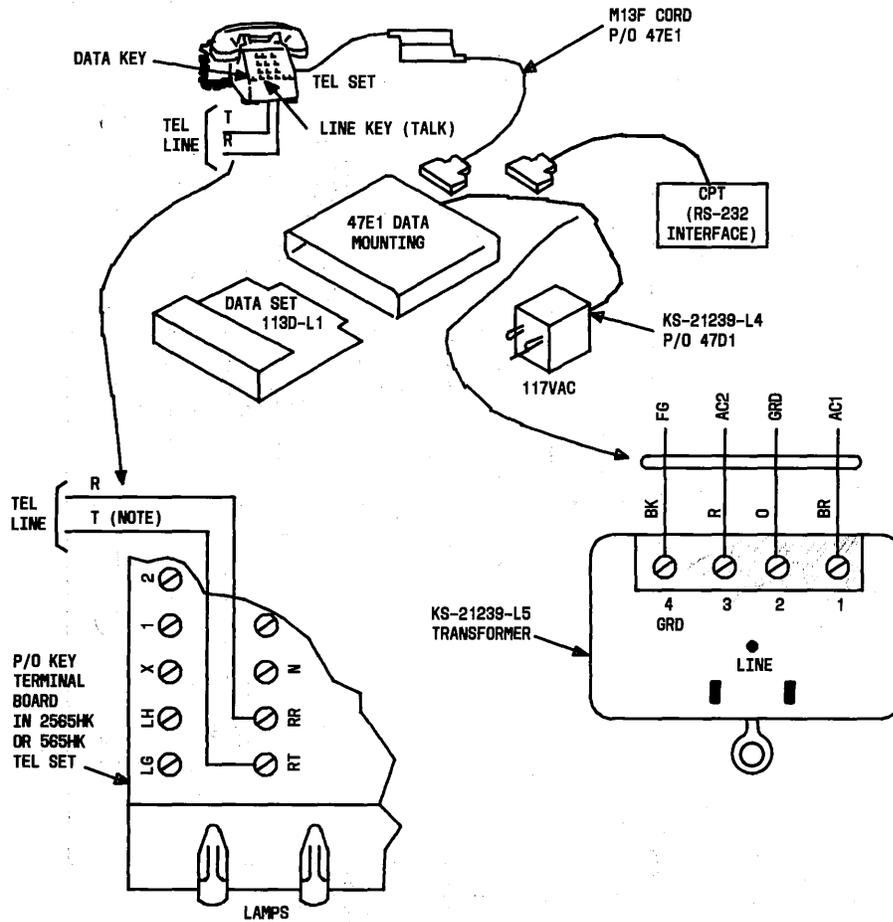
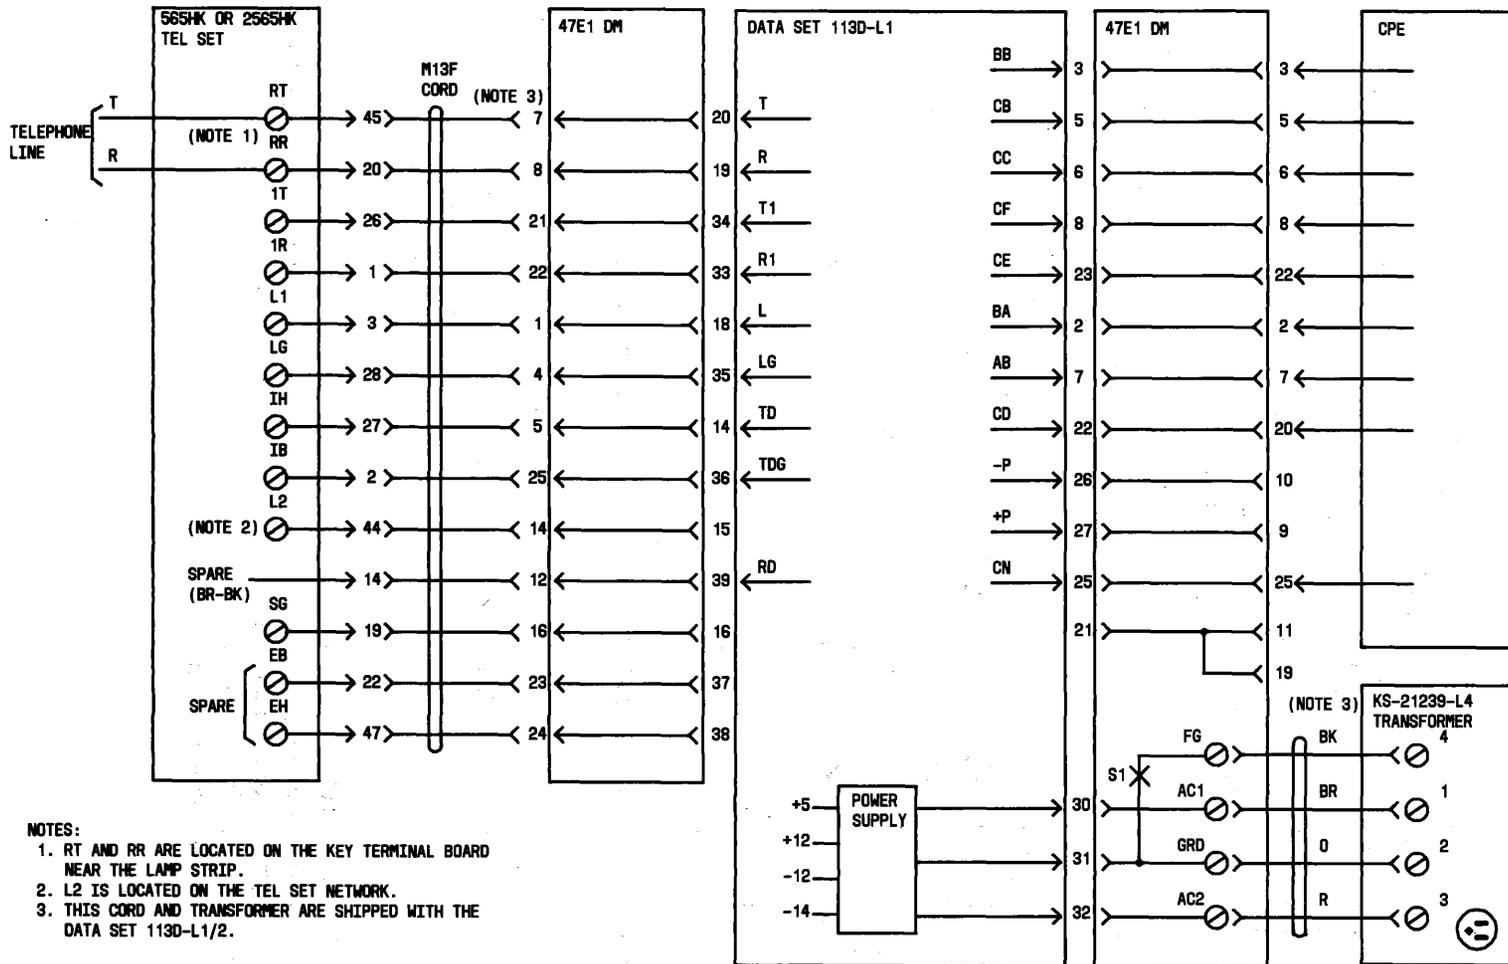

Fig. 6—Typical DS 113D-L1/2 Installation With 565HK Telephone Set
Fig. 7—DS 113D-L1/2 Installation With 565HK Telephone Set—Connection Diagram
5.04 DS 113D-L1/2: When a single DS 113D-L1/2 is installed, connect tip and ring in the associated telephone set and connect the cables as shown in Fig. 6. Figure 7 provides detailed wiring information for the single data set installation. This information is useful in troubleshooting.